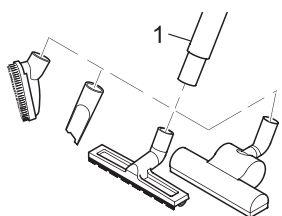

Fig. 9
3. Attach the required nozzle to the bottom end of the telescopic tube (Fig. 9/1) or if necessary directly to the handle.